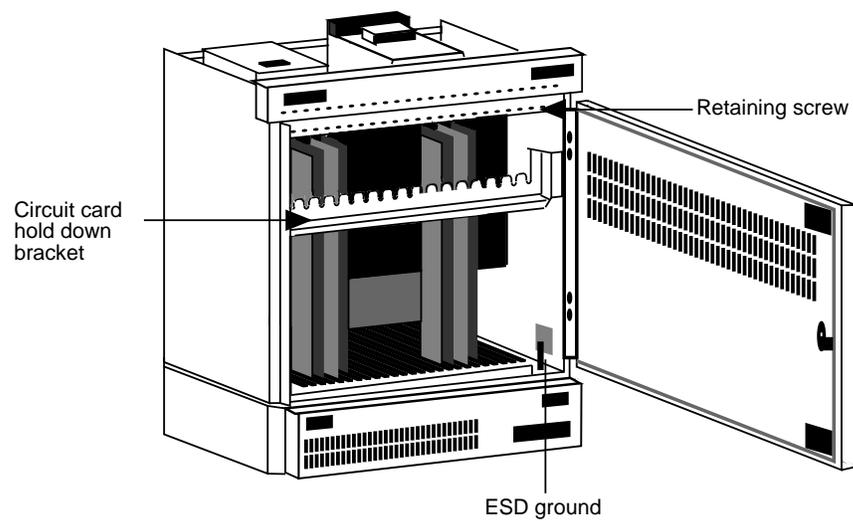

Figure 5-1. MAP/100C with the Front Door Open
3. Use the indentations around the slide latches to swing the door open to the right. Open the door as wide as its hinges allow (Figure 5-1).